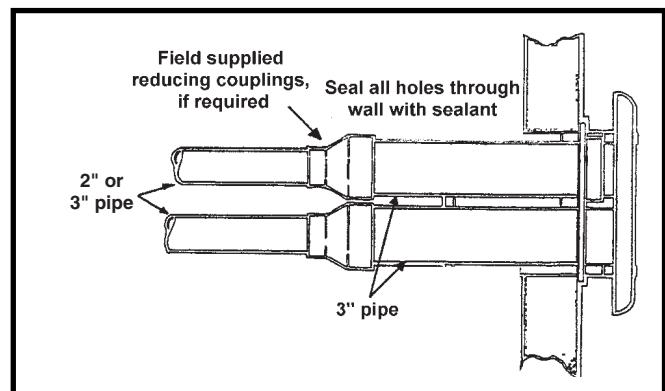

Figure 3. Vent Kit installation
- IMPORTANT:** If reducing to 2" diameter pipe, field-supplied reducing couplings are required. See Figure 3.